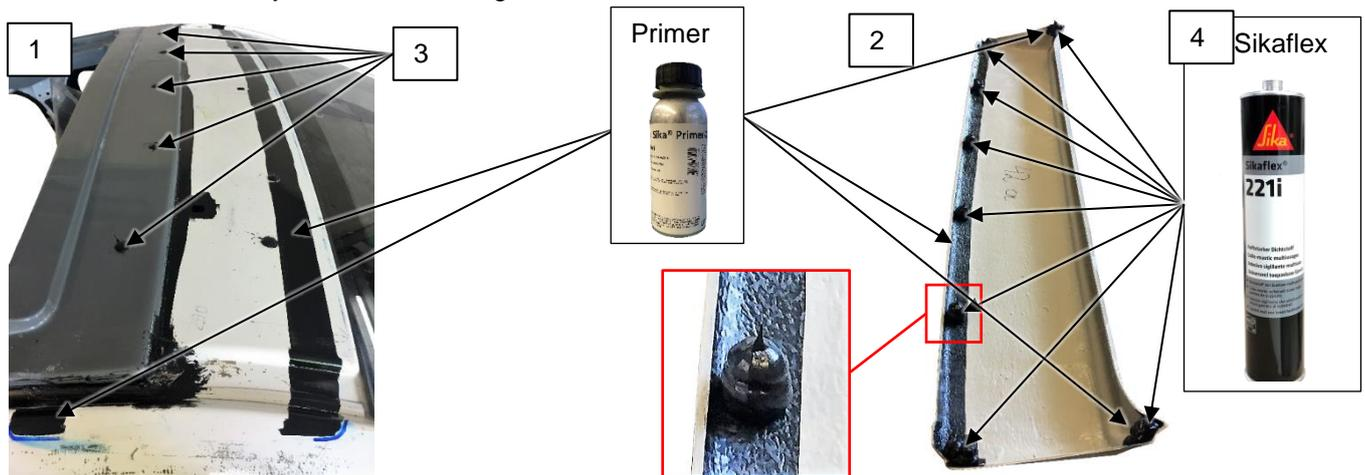

Fig. 6-1: Front spoiler installation
- Prepare the vehicle and the GRP frame (see Fig. 6-1, 1) as well as the front spoiler (2) in the bonding area:
- Fill the five screw holes of the EasyFit frame with Sikaflex (3)
- Apply generous blobs of Sikaflex to the bonding area of the front spoiler (4)